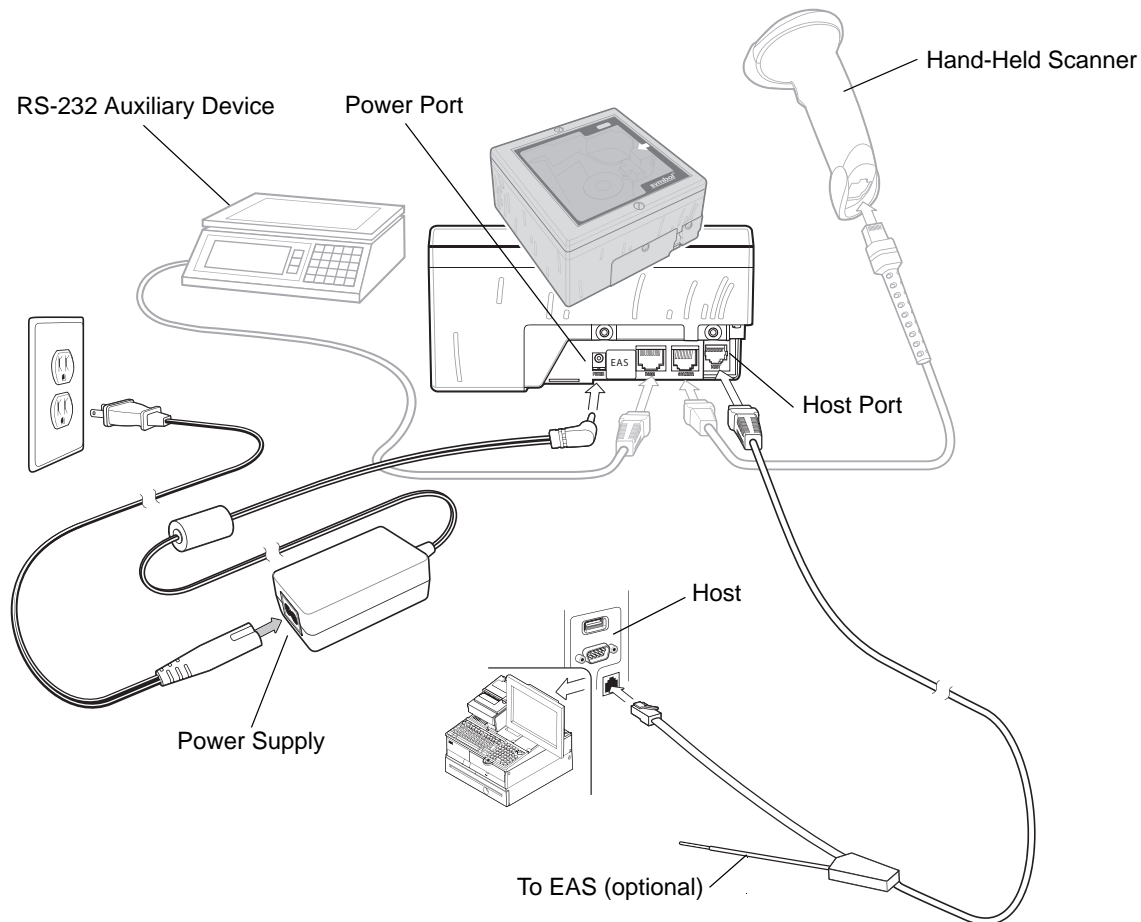

Figure 8-1 IBM Connection - Power Supplied Externally, with or without Peripherals
3. Connect the peripherals, if any, to their respective ports (see Figure 8-1).